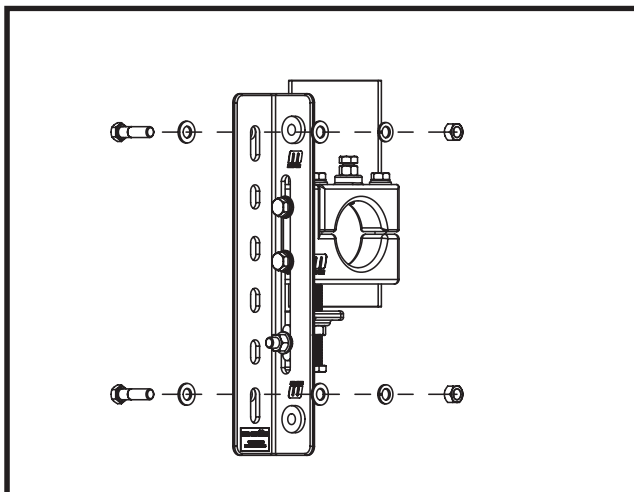

Figure 5. Martin® P2 Secondary Belt Cleaner HD Operator Bolt Tensioner Mount Bracket Hardware
1. Fit operator side mount bracket to the chute wall. Bolt mount to the chute wall. (Refer to Figure 5.)